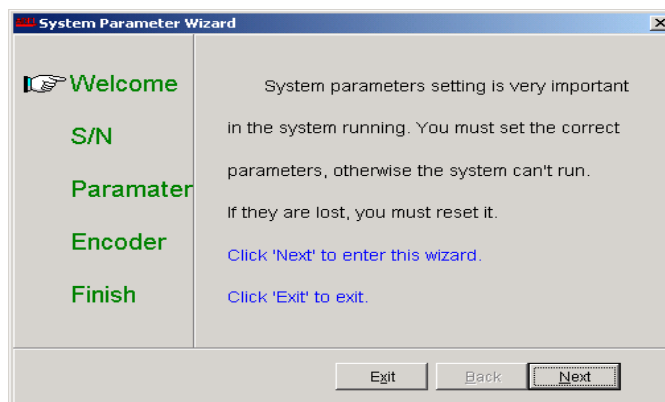

Figure 2-2
- 2) Click **OK** button to confirm. Figure 2-2 appears.